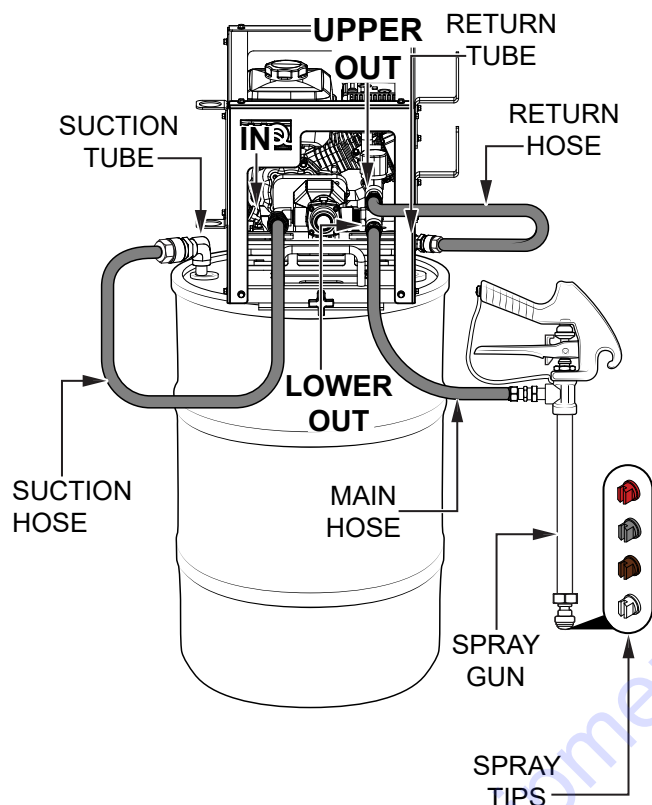

Figure 47. Barrel Mount Spray System Assembly
7. Insert the (**larger**) suction tube and (**smaller**) return tube into the top of the drum (Figure 47). If the bung holes are different sizes, be sure to place the suction tube into the **larger** hole, and the return tube into the **smaller** hole.
14. Choose an appropriate spray tip for the desired application, and install it onto the end of the spray gun (Figure 47). See Table 8 for spray tip selection information.
8. Connect one end of the suction hose to the **IN** port on the pump (Figure 47).
9. Connect the other end of the suction hose to the suction tube (Figure 47).
10. Connect one end of the return hose to the upper **OUT** port on the pump (Figure 47).
11. Connect the other end of the return hose to the return tube (Figure 47).
12. Connect the male fitting on one end of the main hose to the lower **OUT** port on the pump (Figure 47).
13. Connect the female fitting on the other end of the main hose to the male fitting on the spray gun (Figure 47).